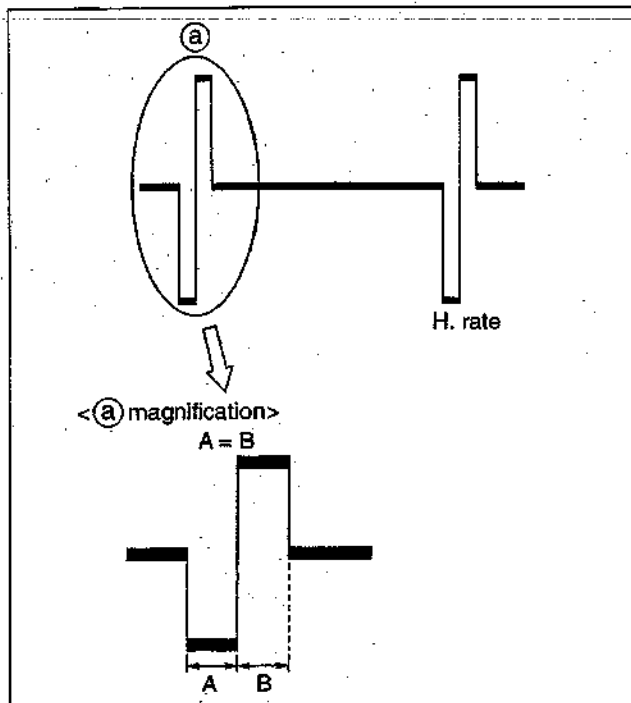

Fig. 3-2-2 PLL (MONI)
- 2) For the waveform shown in the waveform chart (Fig. 3-2-2), equalize the width of A and B with each other by adjusting R7338.